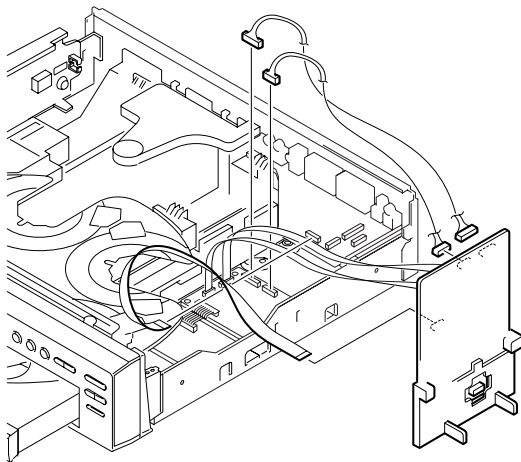

Fig. 12
- 6) Set the flexible flat cable and the harness as shown in Fig. 12.